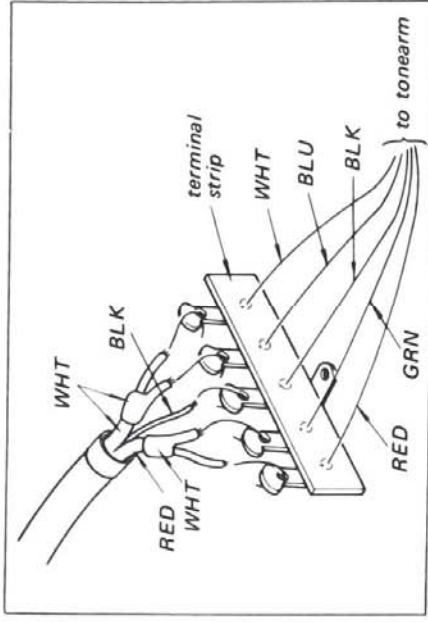

Fig. 2-13. Lead wire connection
4. Unsolder the five output-lead wires of tonearm. Refer to Fig. 2-13 when reconnecting the lead wires to the terminal strip.